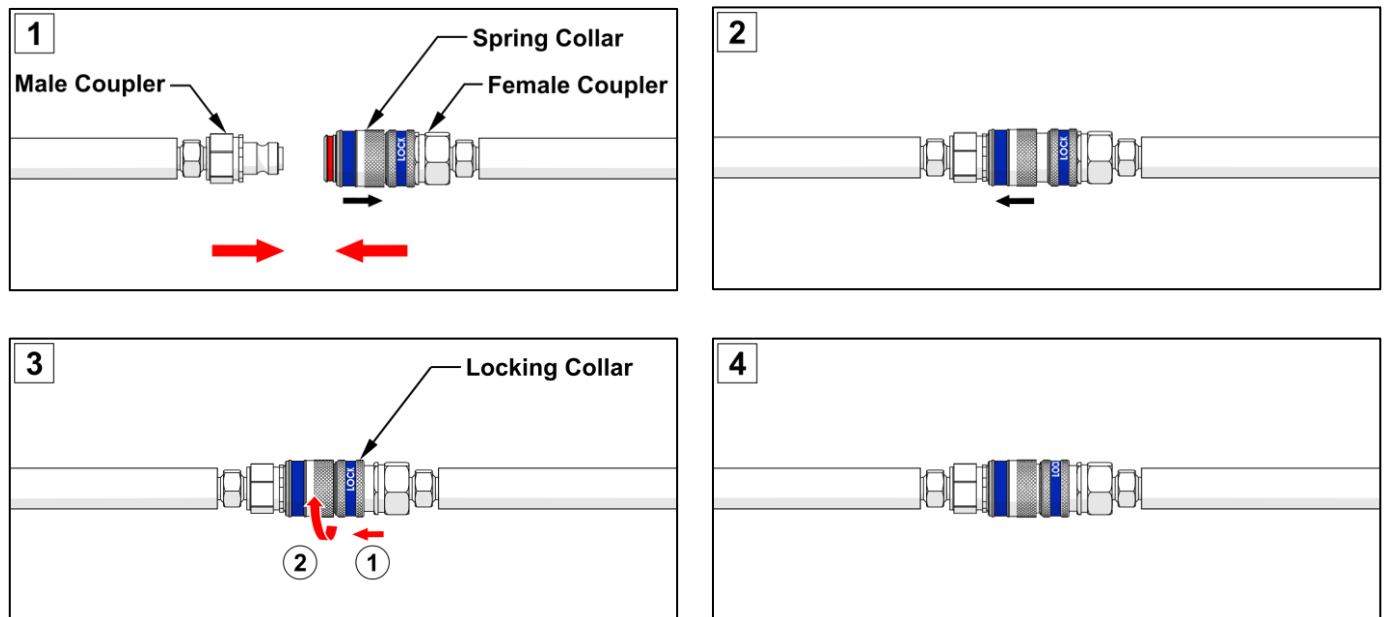

Fig 5.1: Hydraulic Connections
Connections between couplers (see fig 5.1) are made by [1] pulling back the spring collar on the female coupler. [2] Inserting the male coupler into the female coupler and then releasing the female spring collar. [3] Lock the connection by (1) pushing forward on the locking-collar and then (2) twisting it clockwise and releasing. A gentle tug on the hose should be enough to make sure the hose is correctly connected.